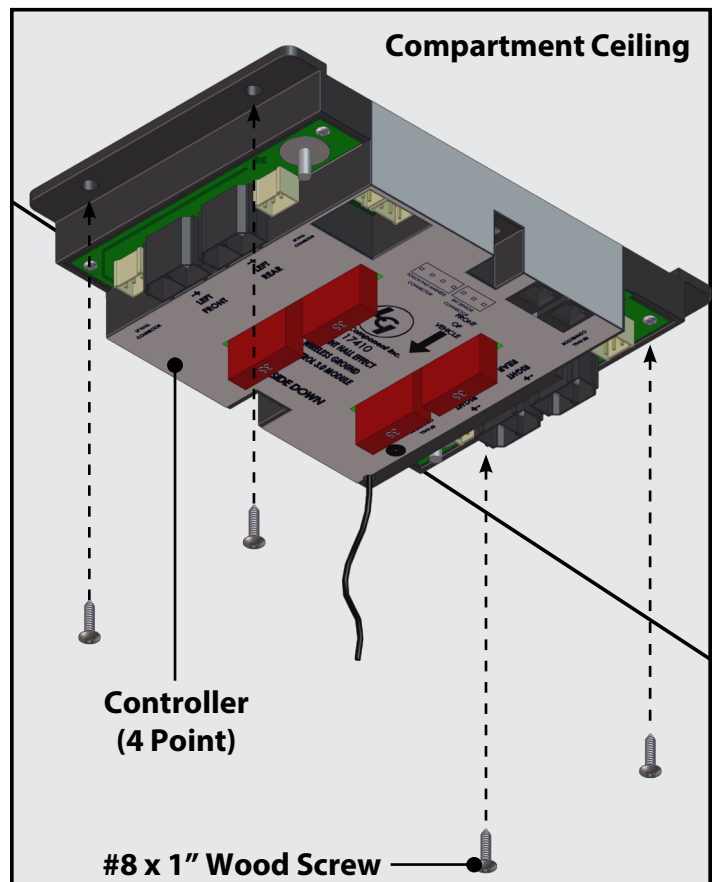

Fig.16
2. Using four #8 x 1" wood screws, attach the controller to the ceiling of the compartment, centered over the marked centerline in the compartment (Fig. 16).